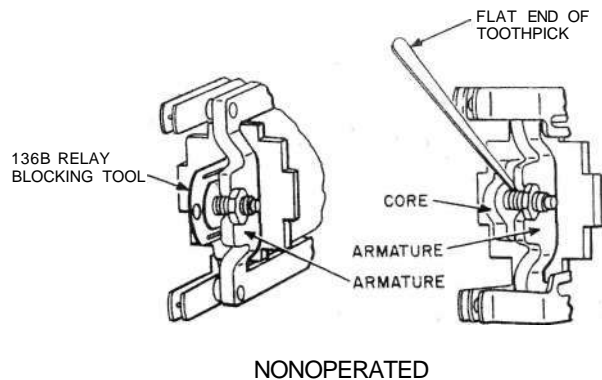

Fig. 1—Blocking Nonoperated A-, AB-, E-, F-, H-, M-, R-, T-, 236-, 266-Type and EA1- through EA13-Type Relays
3.01 A-, AB-, E-, EA-, F-, H-, M-, R-, T-, 236-, and 266-Type, and Similar-Type Relays: Fig. 1 and 2—Block relays nonoperated by inserting the 136B relay blocking tool between the core and the armature. Block relays operated by inserting the 136B tool between the armature